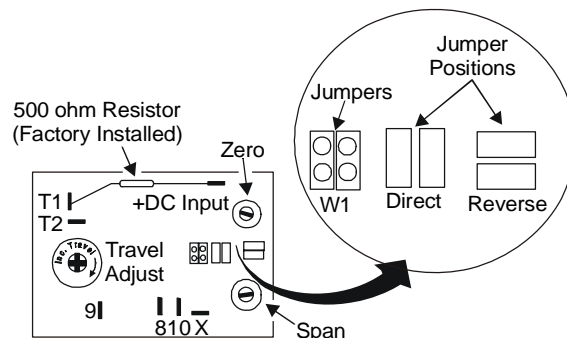

Figure 1: R81GAA-2 Circuit Board
The actuator is factory set for Direct Acting (DA) for 4 to 20 mA. When in the DA mode, the action of the actuator is Clockwise (CW) with a signal increase. Reverse Acting (RA) is selected by changing the orientation of the jumpers at W1, and the action is Counterclockwise (CCW) with a signal increase. (See Figure 1.) Refer to the *Calibration, Reverse Acting* section before selecting the RA mode.
1. Set the jumpers to the DA position as shown in Figure 1.